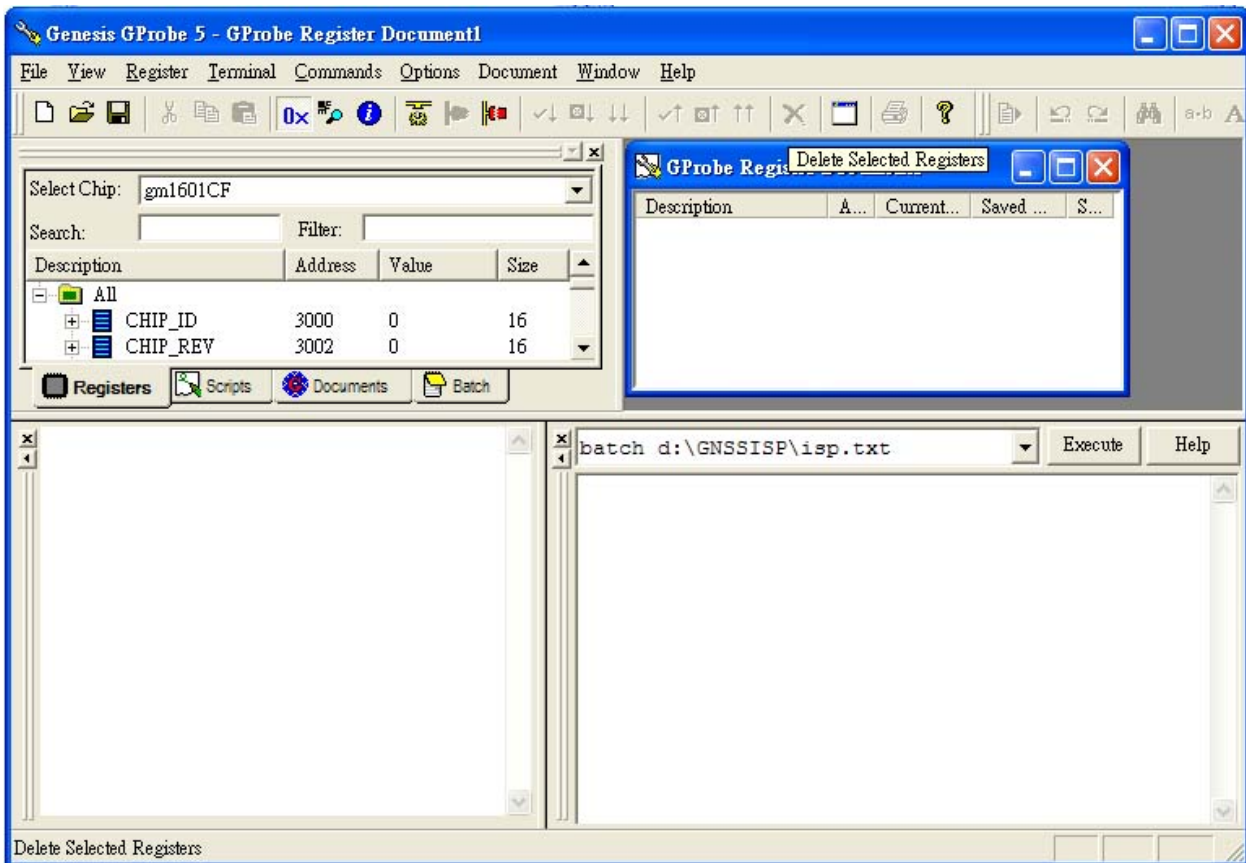

Fig. 1.3
1.6 Click the right-lower terminal window and type “batch d(or other drive letter):\ISP\isp.txt” in the upper blank area then click “Execute” button. See the Fig 1.3.